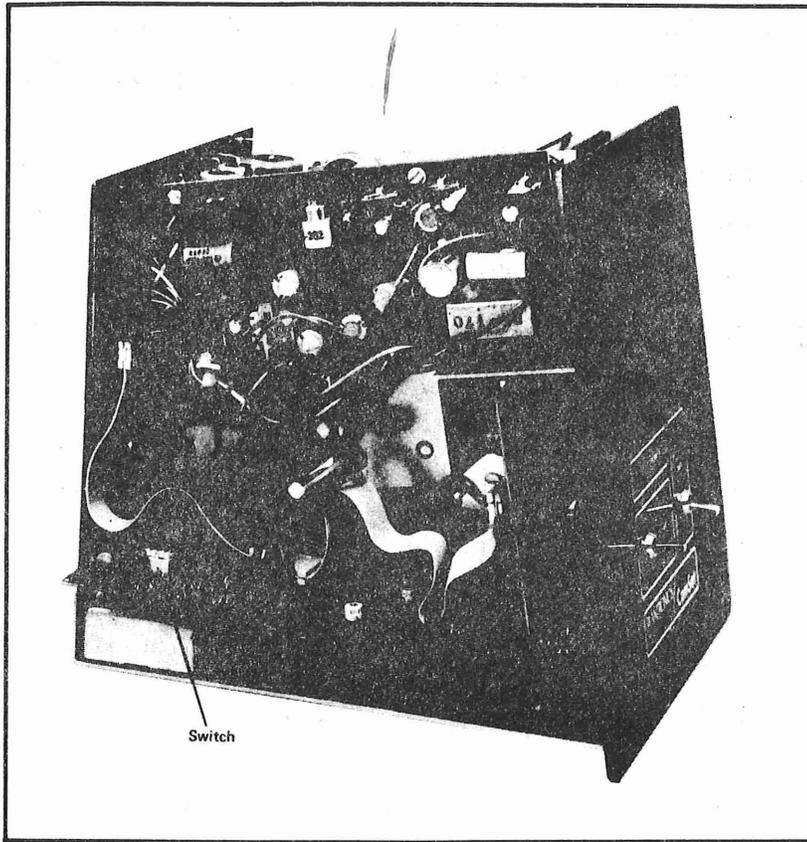

Figure 3-1 Baud Rate Switch Location
- (c) Locate data rate selector switch at bottom left rear of display unit on data converter card (see figure 3-1).